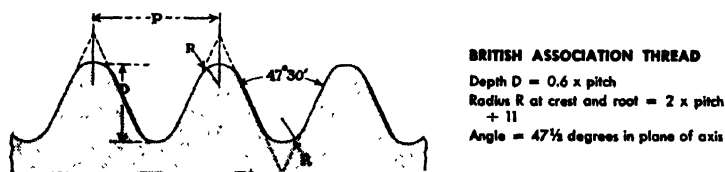

Fig. 17-10. The British Association thread. (*The Shell Oil Company*)
*The British Association Thread* (Fig. 17-10). This thread is similar to the British Whitworth, but its use is confined to the fine-thread series or threads of  $\frac{1}{4}$  in. diameter and less. Because of the small dimensions of the thread, extra strength is desirable. This is accomplished by setting the sides of the thread at an angle of  $47\frac{1}{2}$  deg. instead of 55 deg., which makes them slightly steeper.